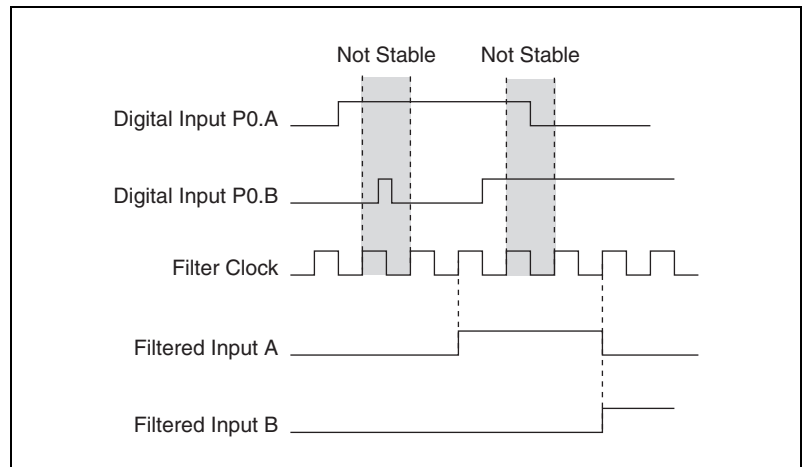

Figure 6-14. Case 2
- **Case 2**—If an additional line on the bus also has a transition during the filter clock period, the change is not propagated until the next filter clock edge, as shown in Figure 6-14.